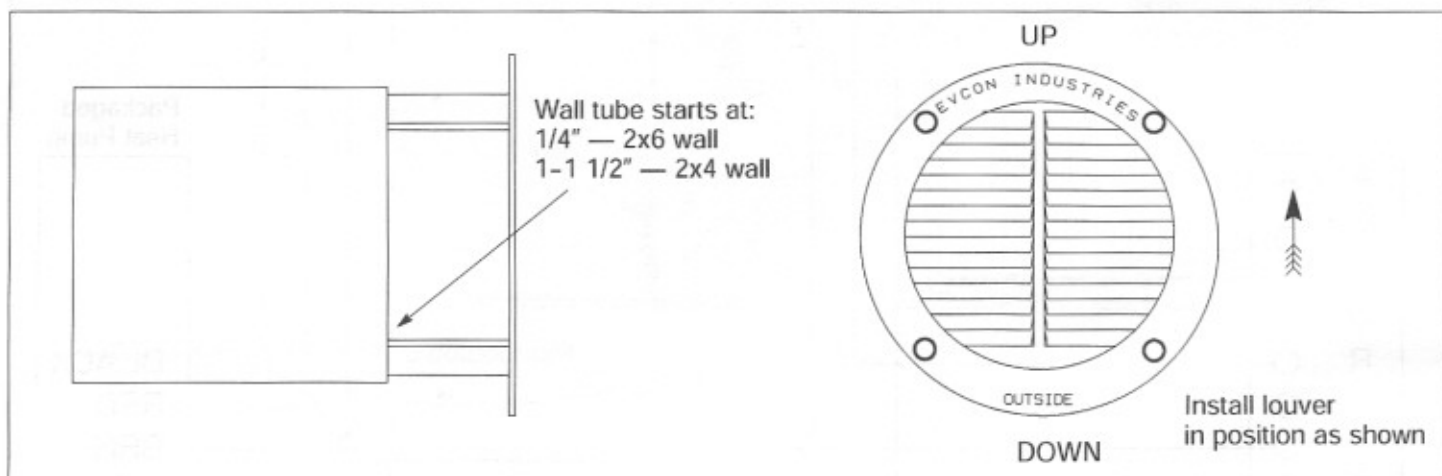

Figure 18 — Pressure Balancing Damper
2. Assemble the louver marked **OUTSIDE** and the wall tube. Do not slide louver all the way into the tube, but start the tube at 1/4" for a 2 x 6 Wall or 1 - 1/12" for 2 x 4 Wall. Slide the tube and louver through the hole, avoiding any obstruction such as, insulation or wiring. Use #8 x 1/2" screws provided to secure louver to siding or outside wall. See FIGURE 18.
**NOTE:** The **INSIDE** louver has a damper that is very sensitive to the flow of air. The louver **must** be installed properly. Install the louvers with the words **EVCON INDUSTRIES** upright. See FIGURE 18.